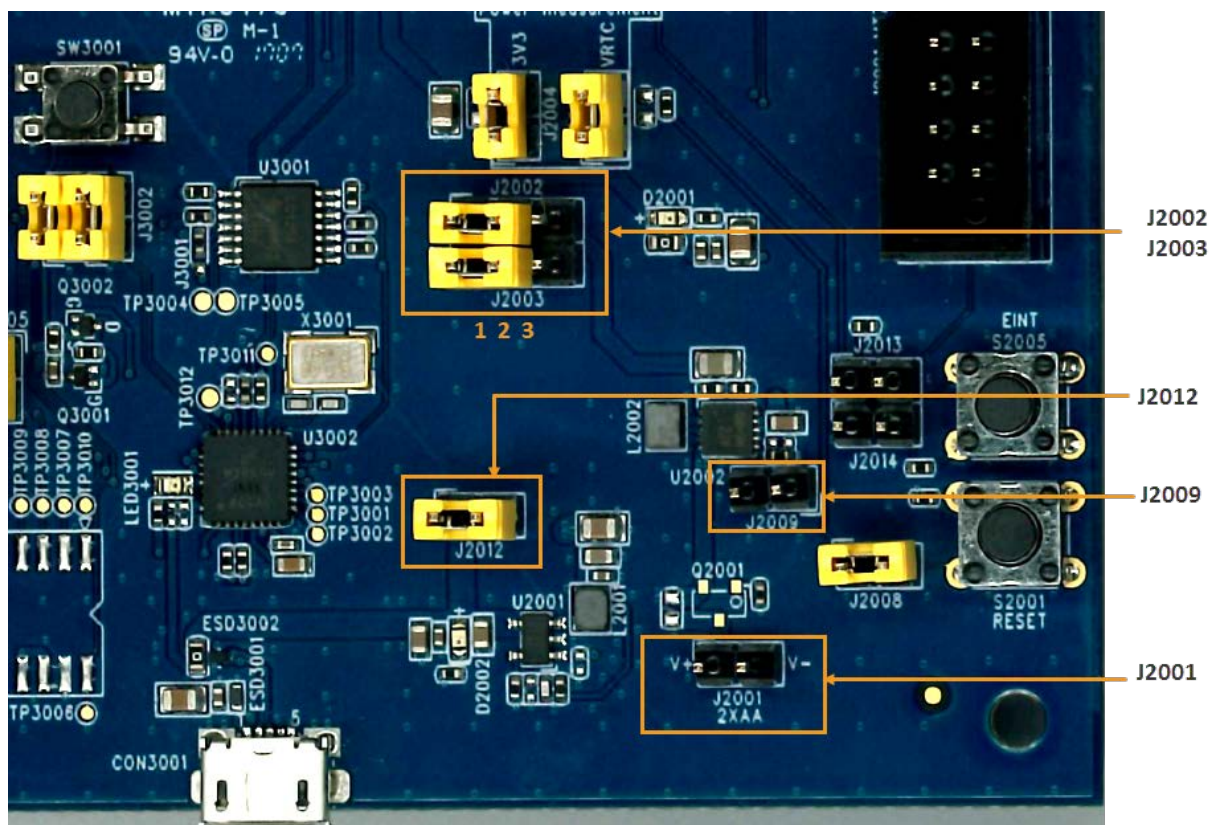

Figure 2. Power source connection
- b) Jumpers J2002 & J2003 should be short at pin 1 and pin 2 (see Figure 2).
- a) Verify the direction of the electrode (J2001) on the HDK (see Figure 2).